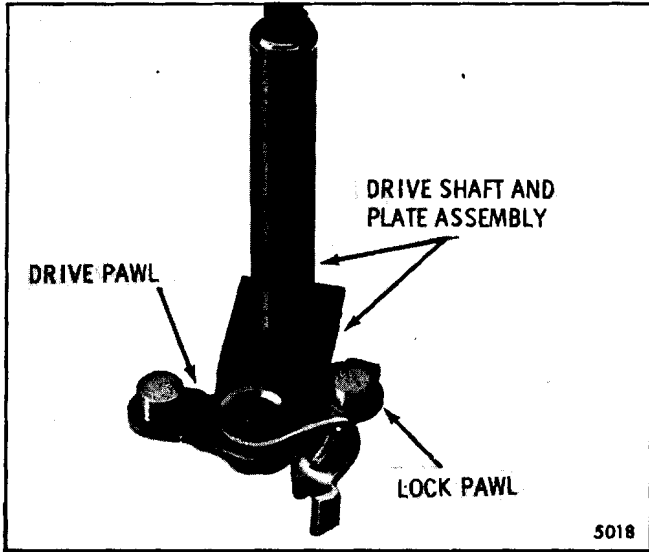

Fig. 2-43-Lock Pawl
2. Assemble lock pawl over drive pawl as shown in Fig. 2-43.